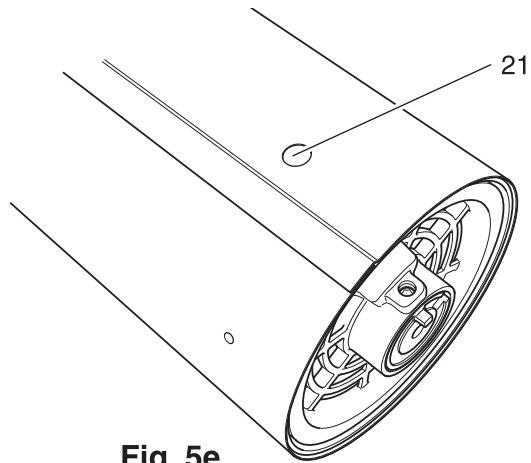

Fig. 5e
- Insert and tighten screw 20 of the right motor flange through drill hole 21 (fig. 5e), before wrapping the roller.